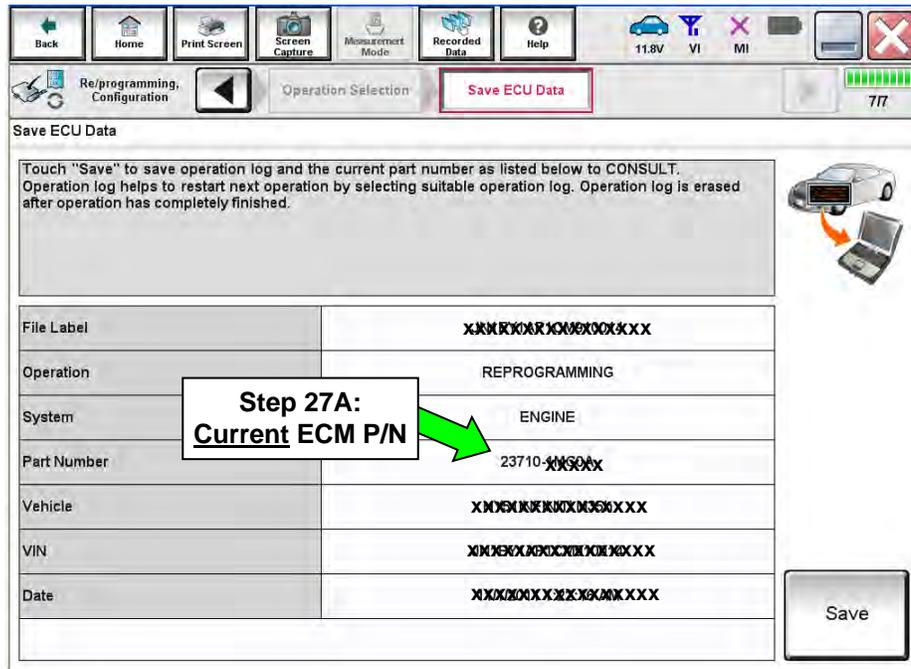

Figure 24
26. Follow the on-screen instructions and navigate C-III plus to the screen shown in Figure 24 on the next page.
27. When you get to the screen shown in Figure 24, confirm if a reprogram is available as follows.